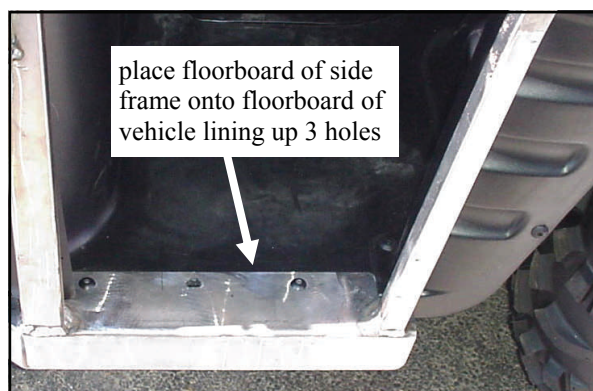
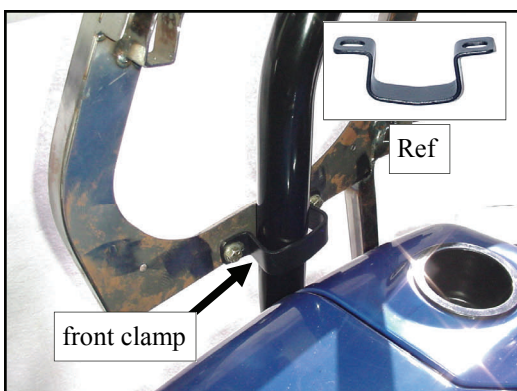

Fig. 3.1 View from passenger's side
Fig. 3.1.1 View from driver's side
3.1 With assistance, place the side frame assembly in place on top of the vehicle floorboard per fig. 3.1. Attach the middle front using the bracket shown, two 5/16-18 x 1" long hex head bolts, two internal tooth locking washers, and two flat steel washers into the factory installed threaded inserts. See fig. 3.1.1. Hand tighten only.